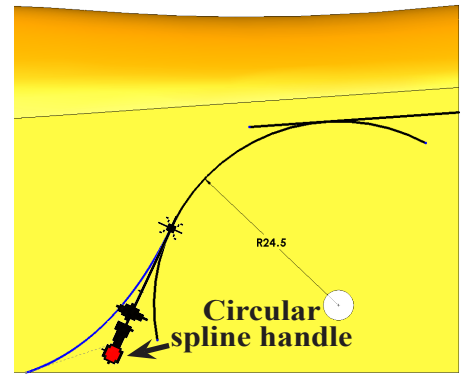

Fig. 98
Step 22. Grab the circular spline handle (small gray dot) at right endpoint, **Fig. 98** and pull up to adjust spline.